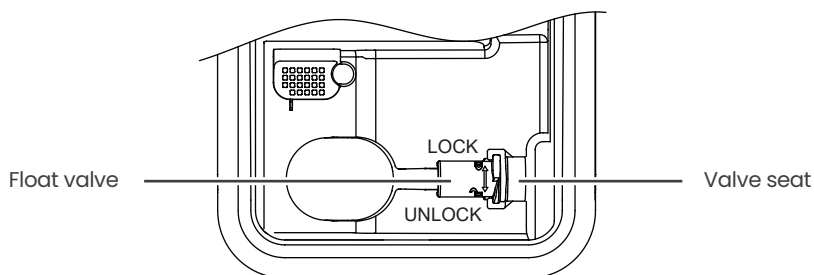

Figure 1
- a. After removing the ice basket, locate the float valve and valve seat at the bottom of the unit (Figure 1).